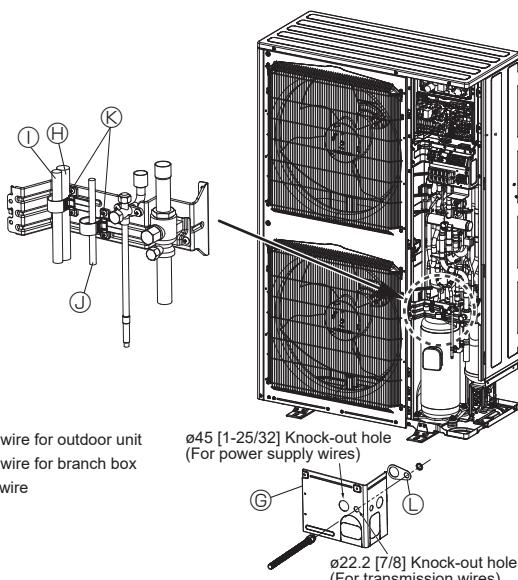

Fig. 6-1
(Fig. 6-1)
- * The shield terminal (S) of the transmission terminal block (TB3) is connected to the ground (Ⓔ) when the unit is shipped from the factory.
4. Fix the power supply and transmission wires using clamps Ⓛ. Refer to Fig. 6-1.